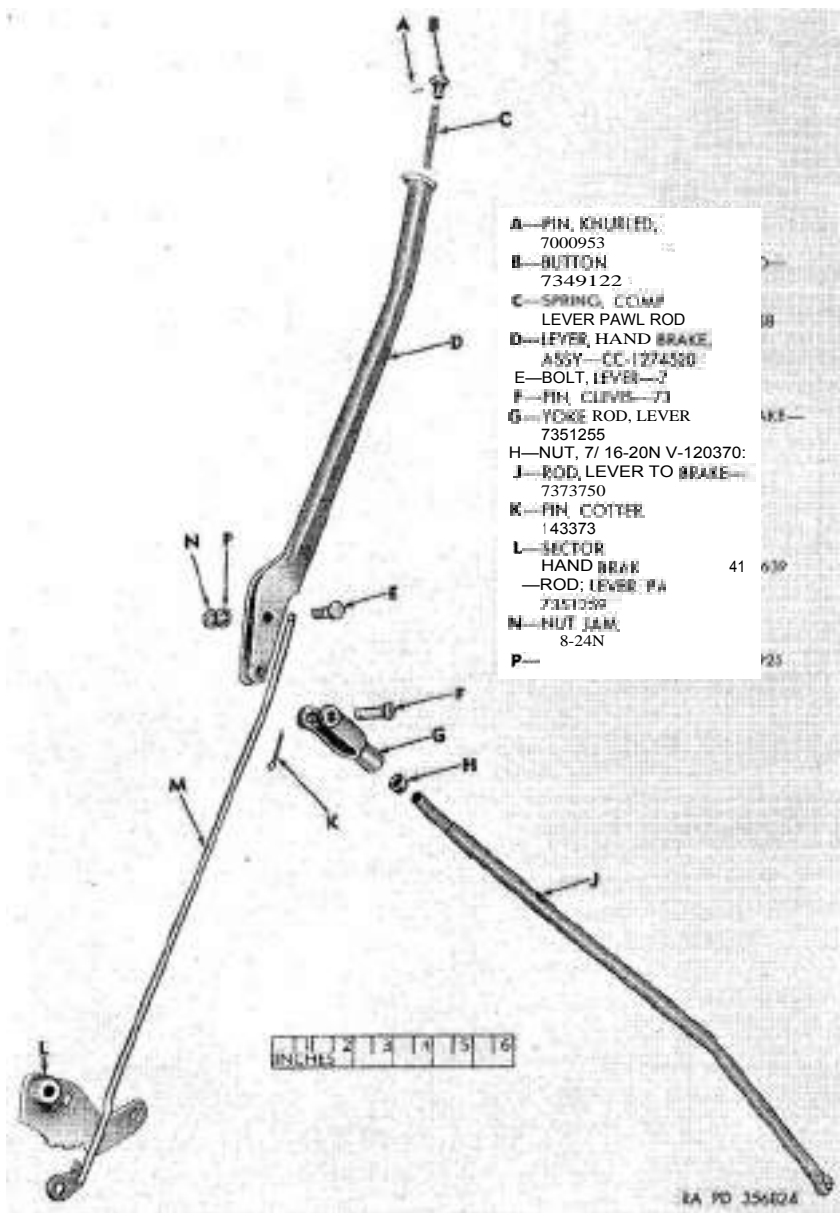

Figure 148. Hand brake lever and rod—exploded view.
b. *Remove Parts from Hand Brake Lever* (fig. 148).
- (1) Remove 3/32 x 3/4 cotter pin (K) from clevis pin (F) ; then remove clevis pin from lever-to-brake rod yoke (G) and hand brake lever assembly (D). This will release the rod and yoke from lever. Remove lever-to-brake rod yoke (G) and 7/16-20NF nut (H) from lever-to-brake rod (J).
- (2) Remove 3/4-24NF stamped-jam nut (N) and 1/2-24NF jam nut (P) from lever bolt (E). Remove lever bolt from hand brake lever assembly (D). This will release the hand brake lever sector (L).
- (3) Push lever pawl rod assembly (M) up through lever to expose lever pawl rod button (B) and button knurled pin (A). When knurled pin is visible above lever, drive pin from button with a small drift. Remove button and lever pawl rod compression spring (C) from lever pawl assembly rod (M).
a. *Inspect Hand Brake Lever and Related Parts* (fig. 148).
- (1) Inspect hand brake lever assembly (D) for damage, cracks, distortion, or worn bolt holes or clevis pin holes. If any of these conditions exist, hand brake lever must be replaced.
- (2) Inspect lever pawl rod compression spring (C) for damage or breakage. If there is evidence of damage or breakage, replace spring.
- (3) Inspect lever pawl rod button (B), button knurled pin (A), lever bolt (E), and clevis pin (F) for wear or damage. If either of these conditions are evident, the parts affected must be replaced.
- (4) Inspect lever pawl rod assembly (M) for cracks, distortion, or worn pawl. If any of these conditions exist, lever pawl rod assembly must be replaced.
- (5) Inspect hand brake lever sector (L) for worn sector teeth, bolt holes, or clevis pin holes ; cracks ; or distortion. If any of these conditions exist, sector must be replaced.
b. Inspect Lever-to-Brake Rod, Lever-to-Brake Rod Yoke, and Nut (fig. 148).
- (1) Inspect lever-to-brake rod (J) for wear, cracks, or damaged threads. If any of these conditions exist, rod must be replaced.
- (2) Inspect lever-to-brake rod yoke (G) and ~~7/16-20NF~~ nut (H) for worn threads, damaged threads, cracks, or worn clevis pin holes. If any of these conditions exist, yoke or nut must be replaced.
b. Assemble Hand Brake Lever (fig. 148).
- (1) Insert lever pawl rod assembly (M) in hand brake lever assembly (D). Position lever pawl rod compression spring (C) and lever pawl rod button (B) on upper end of pawl rod. Aline hole in button with hole in pawl rod and install button knurled pin (A).
- (2) Position hand brake lever sector (L) in hand brake lever assembly (D) so that spacer on sector will be on offset side of lever. Install lever bolt (E) and $\frac{3}{8}$ -24NF jam nut (P). Tighten jam nut until sector is just a free fit in lever. Install $\frac{3}{8}$ -24NF stamped jam nut (N) (flange side out) and tighten nut securely against $\frac{3}{8}$ -24NF jam nut (P).
c. Assemble ~~Lever-to-Brake~~ Rod and Lever-to-Brake Rod Yoke and Attach Rod to Hand Brake Lever (fig. 148). Assemble 7/16-20NF nut (H) and lever-to-brake rod yoke (G) on lever-to-brake rod (J). Aline pawl with holes in hand brake lever assembly (D) and attach rod to lever with clevis pin (F). Install new 3/32 x $\frac{3}{4}$ cotter pin (K) in clevis pin.